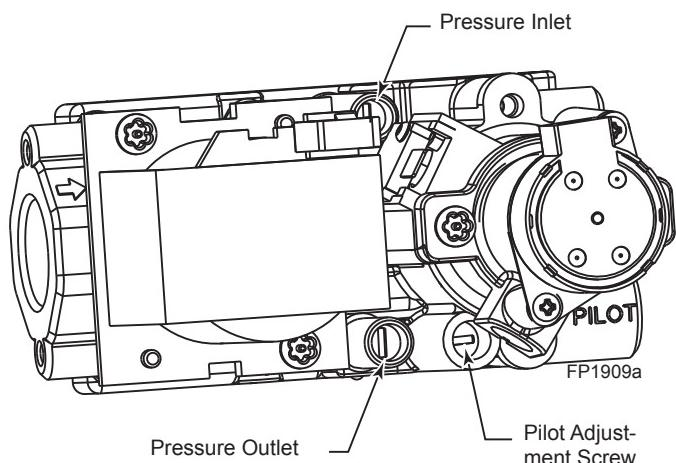

Figure 31 -
4. To check gas pressures at valve, turn captured screw counter clockwise 2 or 3 turns and then place tubing to pressure gauge over test point. Turn unit to high. *Figure 31* After taking pressure reading, be sure and turn captured screw clockwise firmly to reseal. Do not over torque. Check test points for gas leaks.